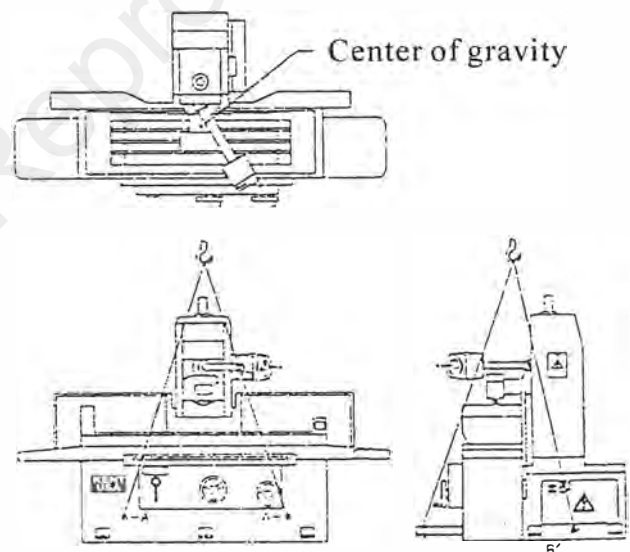

Fig. 4-5
4.3.2.3 Make sure the machine's center of gravity is stable (as in Fig. 4-5)